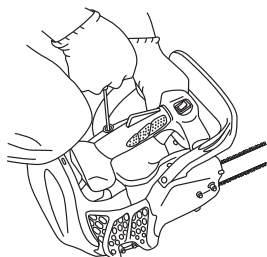

Fig. 12
5. Pull recoil starter briskly again in the aforementioned manner. (Fig. 12)